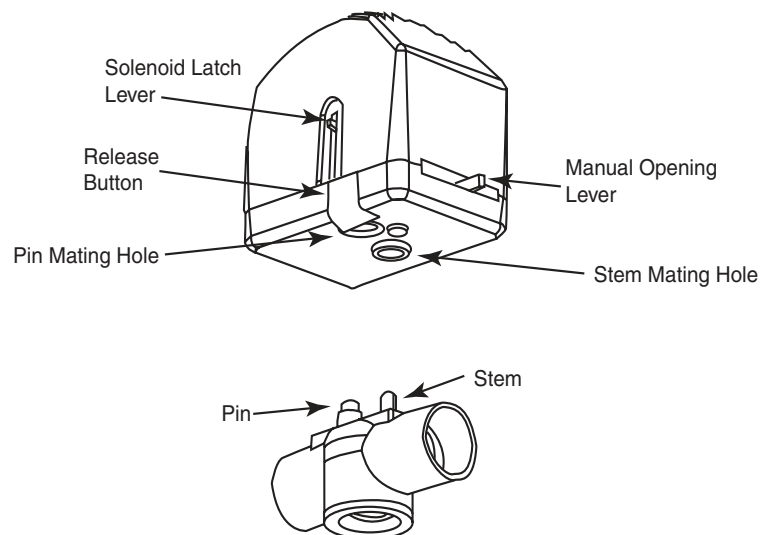

Figure-9 Three-Way Spring Return Valves.
2. With the valve in the mid-position, latch the solenoid by placing the manual solenoid latch lever in the "Up" position. Then, detach the actuator by depressing the release button and pulling it away from the valve body (Figure-9).
When installing threaded valves, the actuator should be detached from the valve body to ease installation. To do so, first slowly move the actuator's manual operating lever (on the front of the actuator) to the middle position. Then latch the solenoid by placing the red manual solenoid latch lever on the side of the actuator to the "Up" position. Finally detach the actuator by depressing the release button and pulling the actuator away from the valve body (Figure-9).
3. Align the valve body with the actuator to ensure the stem is inserted into the large mating hole on the bottom side of the actuator (Figure-9).